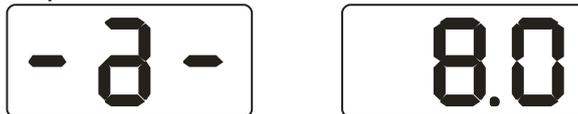

Figure 7-1
After the machine is powered on, it starts initialization automatically. The initialization will be completed after two seconds. Then the machine enters normal dynamic (clamp counterweights on the correction plane of the both edged sides of rim) mode automatically (Figure 7-1), ready for input data of rim.
- 8.1 Power on machine. After the initialization (figure 7-1), install a middle size and comparatively balanced wheel on which counterweight can be clipped. Then follow step 7.2 input data of rim